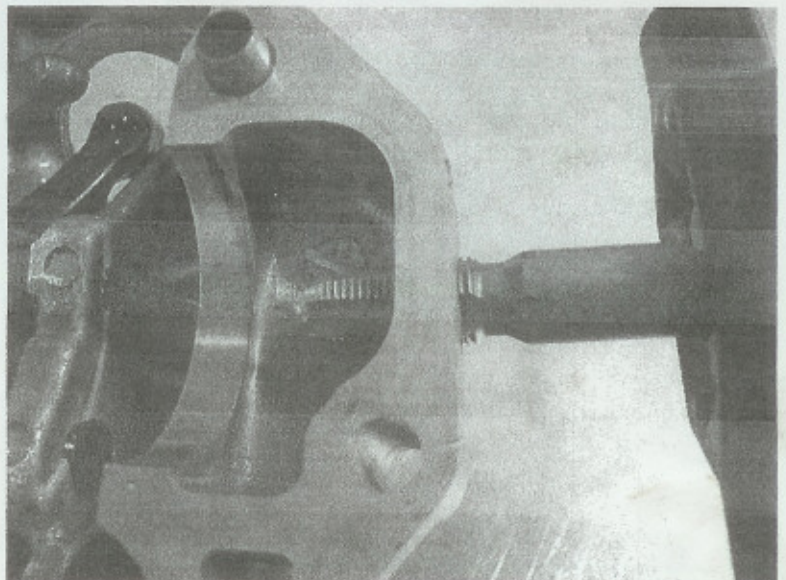

Fig. 1
- In the center of the portion of the head cover that covers the cam oil reservoir (right side of the cover facing forward) drill and tap with a 1/8-27 NPT tap and drill.(Fig. 1)